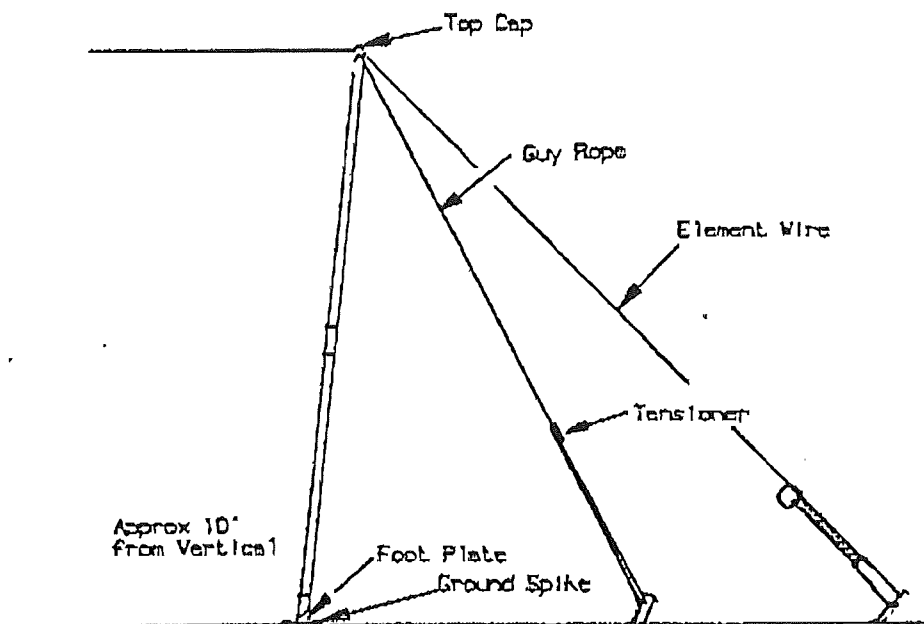

Figure 5-2. Inverted Vee Dipole Termination
- Step 11 Disconnect the Aerial Wire Assembly from the reel and terminate it with a Load Assembly and Ground Peg Assembly. Pretension the wire, drive in the Ground Peg Assembly, and assemble and erect the Minimast. See paragraphs 4.2.7, 4.2.8, 4.2.9 and 4.2.10. (See Figure 5-2.)